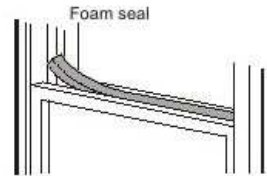

Fig.8
5. Trim the last foam seal to the proper length to seal the open gap between the top window sash and outer window sash. (Fig.8)